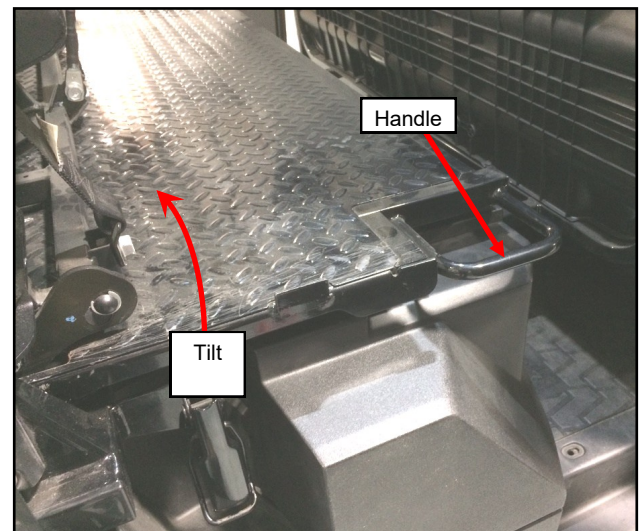

Fig. 2.2 (Tilt Bed, Pro-FXT)
- 2.2 Grab handles on the side of the bed and tilt the bed backwards per fig. 2.2.